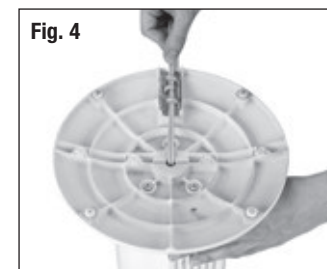

Fig. 4
- Gently pull any slack out of the power cord and place the cord securely in the power cord holding bracket (Fig. 4).